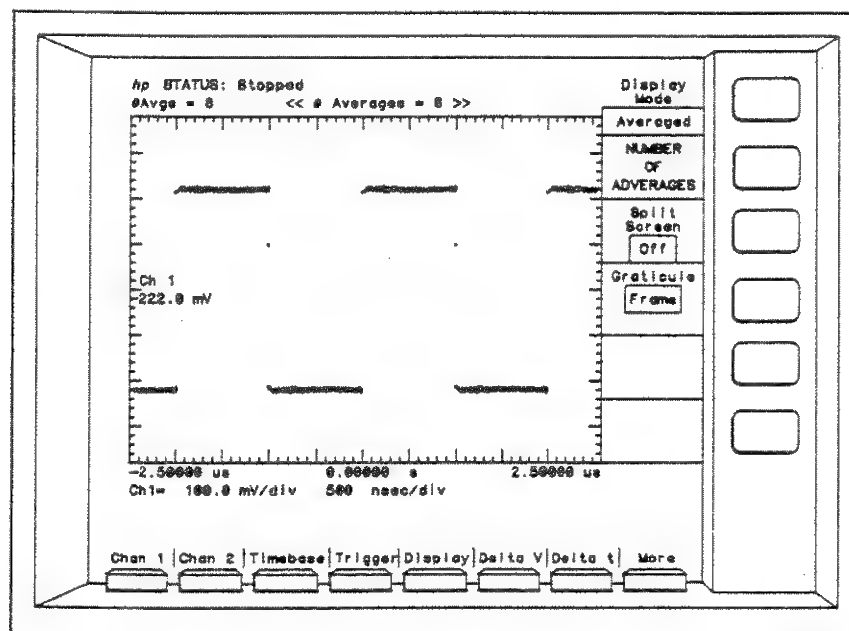

Figure 7-18. Averaged Mode (8 Averages)
5. Set NUMBER OF AVERAGES to 8. (See figure 7-18).
6. Select the normal mode (see figure 7-19). Compare figures 7-18 and 7-19 and notice the reduction of noise on the averaged display. The larger the number of averages the greater the reduction of the displayed noise and the longer it takes to respond to any change in the input signal.